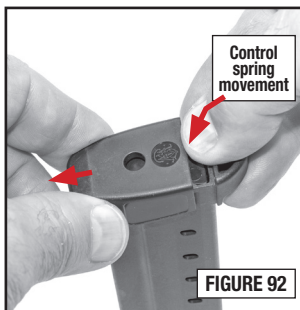

FIGURE 92
- While holding floor plate catch in the tube against spring pressure, slide floor plate forward and off the magazine tube (FIGURE 92).